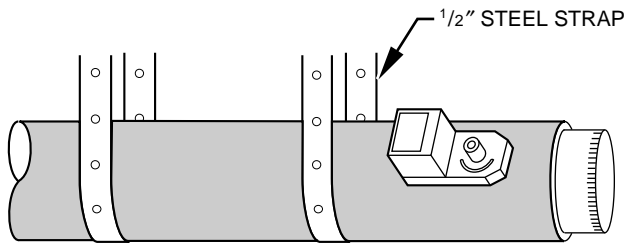

Fig. 5—Insulated Round Metal Ductwork A95130
4. Insulate damper using 1-1/2-in. to 2-in. insulation. (Check your local codes.) (See Fig. 5.)